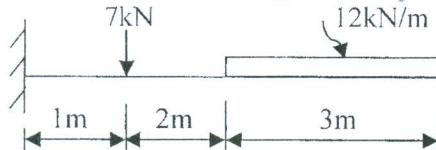

Fig. 6 (NOT TO THE SCALE)
- [B] Draw shear force and bending moment diagrams for fig. 6